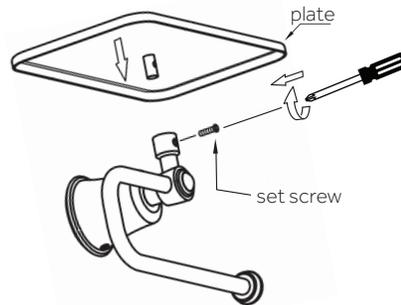

Figure 1
1. Attach the plate to the toilet paper holder. Tighten the set screw to secure, as shown (Figure 1). Note that the mounting screw needs to first be removed from the plate, then reused to attach the toilet paper holder.